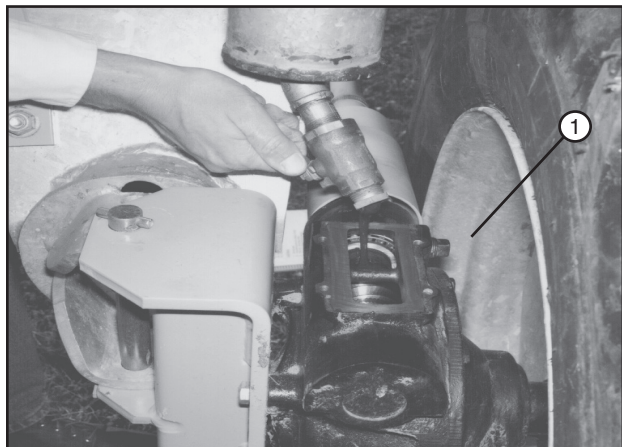

Figure 92-3 1. Check Plug
- Fill gearbox to the top of worm gear shaft or remove the check plug and fill until the oil begins to flow out of the check plug hole. See figure 92-3.